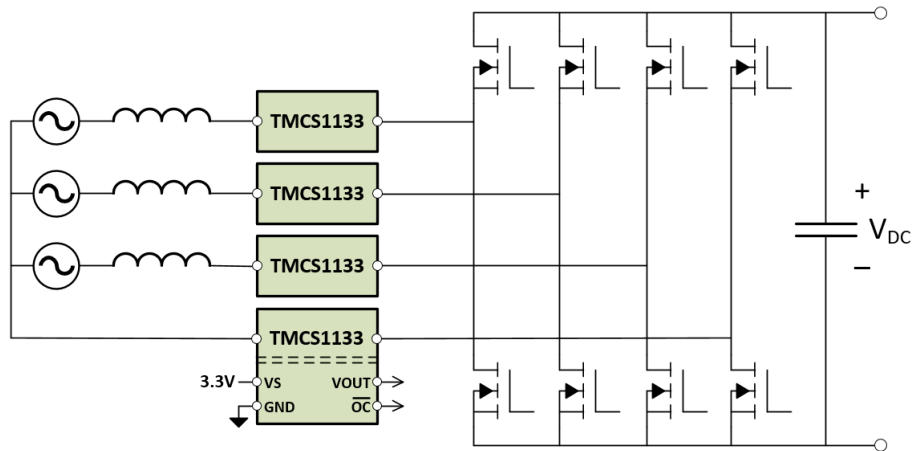

図 9-2. AC to DC Converter Current Sensing
In many applications, power must be converted from AC sources for use in DC circuitry. Some type of controlled power factor correction (PFC) stage is usually needed to improve power transfer efficiency. Faster and faster power switches are being used in modern PFC stages to reduce overall size and to improve power transfer efficiency. Often, the PFC stage of AC to DC converters is connected directly to AC power grids. A primary challenge to sensing in PFC stages is that the current sensor is subjected to large voltage spikes coming from the high-voltage (HV) power grid along with large transients coming from high speed power switches during charge transfer. Inherent isolation in the TMCS1133 construction helps overcome these challenges by providing high levels of isolation between the HV current sensing nodes and low-voltage control circuitry, with high common-mode transient immunity (CMTI). 図 9-2 shows the use of the TMCS1133 measuring phase currents in a common AC to DC converter stage.